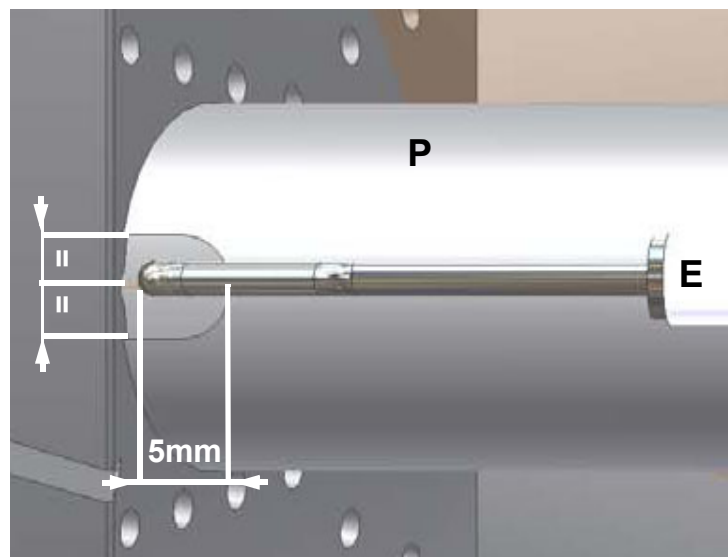

Fig. 13
- Examine and clean the detection photoelement, replace it if necessary (see page 35), in case of doubt, check the detection circuit, after the burner start-up (see Fig. 13-Fig. 20);
- 2 disconnect the electrode (E) cable (CE);
- 4 loose screw (B) that fasten the ignition electrode (E) to the burner pilot (P);
- 5 remove the electrode and replace it, referring to the values quoted on Fig. 13.